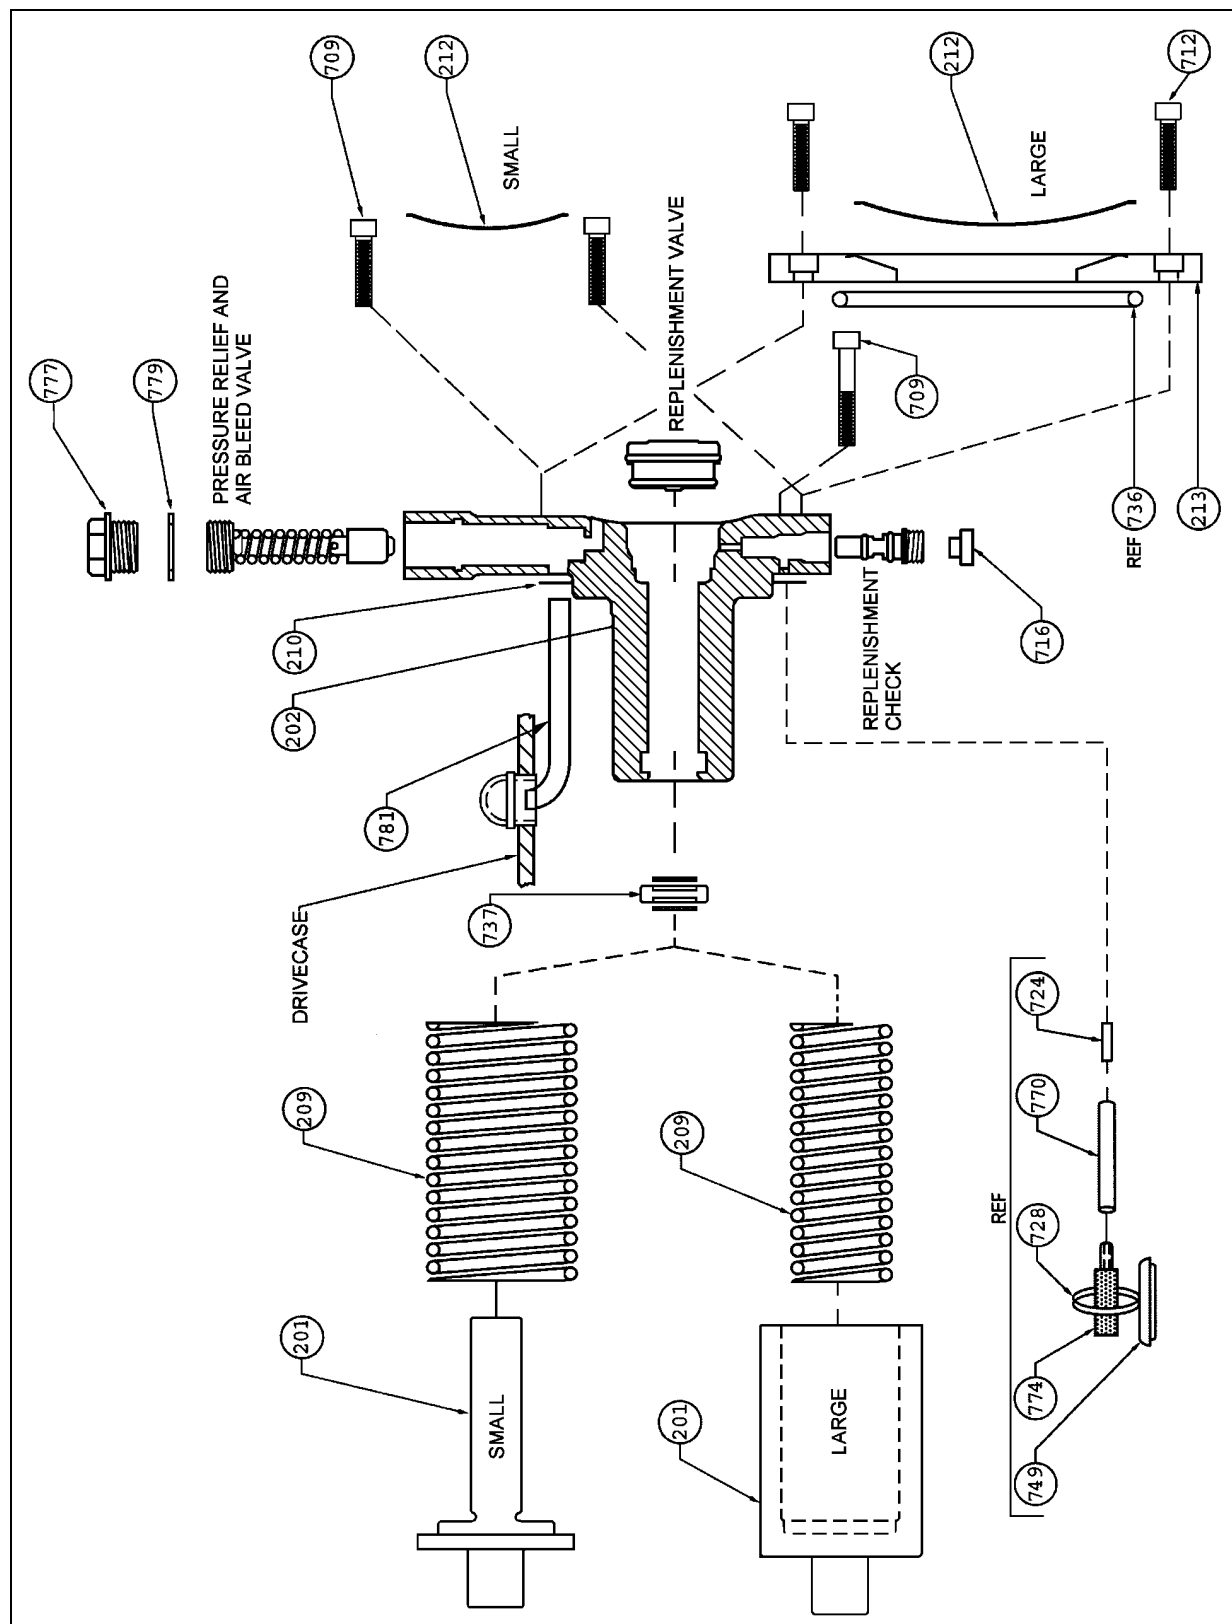

Figure 53. Plunger Body Assembly, Size B & C.
6.19 PLUNGER BODY ASSEMBLY, SIZE B & C (FIGURE 53)